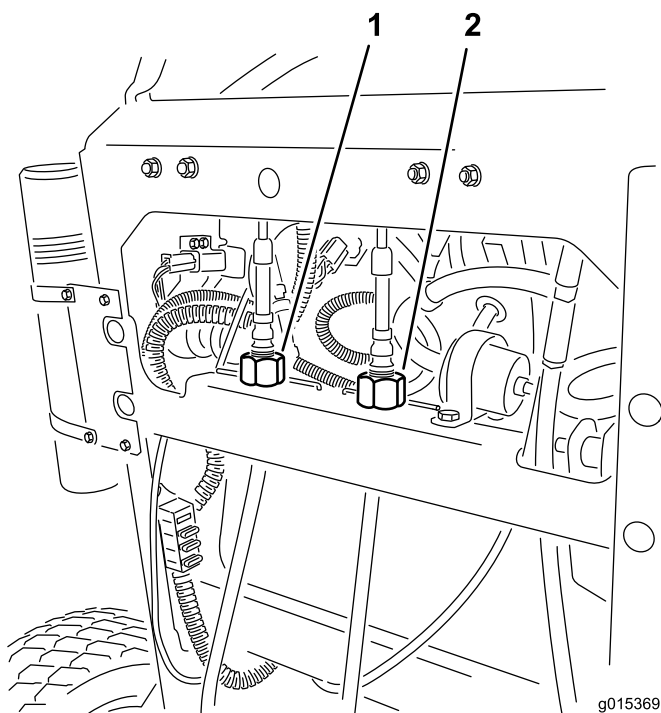

Figure 57
4. Rotate the right cable adjustment to position the right motion control in the center of the control panel neutral lock slot (Figure 57).